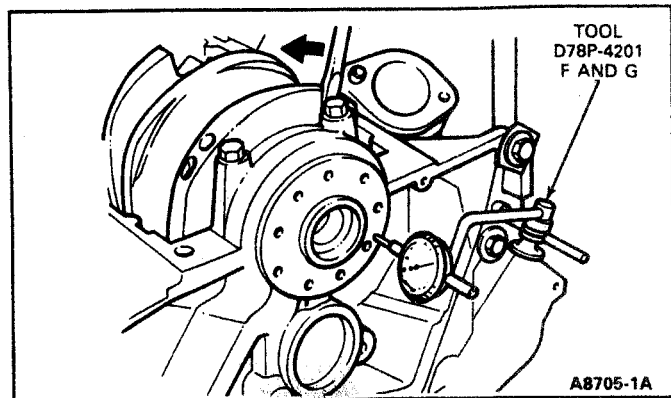

FIG. 24 Checking Crankshaft End Play
2. Install a dial indicator (Tools D78P-4201-F, -G or equivalent) so that the contact point rests against the crankshaft flywheel flange and the indicator axis is parallel to the crankshaft axis (Fig. 24).